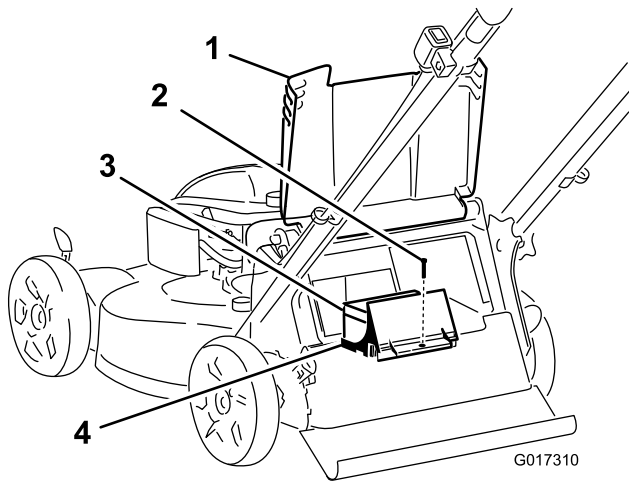

Figure 34
1. Raise the rear deflector and locate the battery compartment (Figure 34).